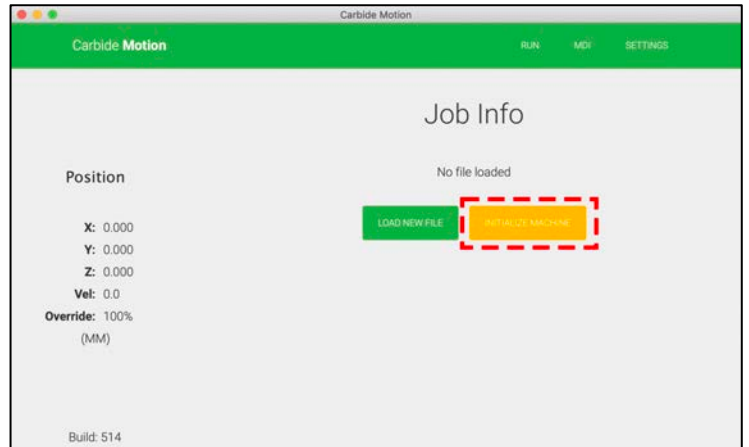

Figure 16
3. After the machine connects, click the **Initialize Machine** button. See *Fig. 16*.